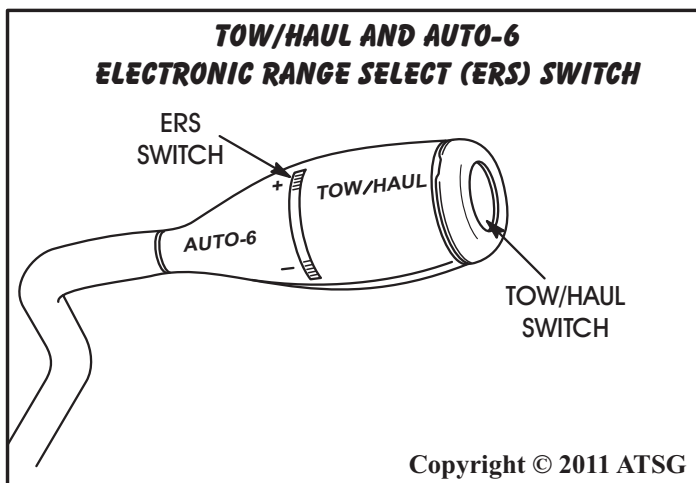

Figure 6
**Tow/Haul & Auto-6 Electronic Range Select (ERS) Switches** - are located in the manual shift lever, as shown in Figure 6. The switches are momentary contact devices that signal the TCM to toggle current status of the Tow/Haul function and adjust the ERS maximum allowed gear range. At key on, normal operation is provided. Pressing the switch enables Tow/Haul mode and the Tow/Haul lamp will be illuminated. In Tow/Haul mode, 4-5 upshifts are delayed. Shifts into 5th and 6th gear are still allowed under steady cruise conditions. Pressing the switch a second time restores normal operation.